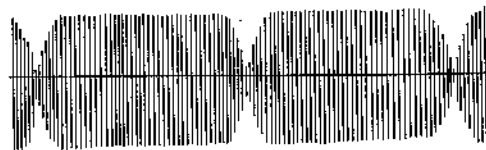
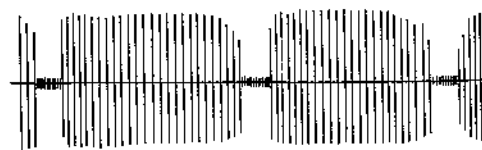

Fig. 4-23
Fig. 4-24
- 3) If the waveform at TP-5 has no signal elements as in Fig. 4-24, adjust the positions of the two PU heads until signal elements are included as in Fig. 4-23.